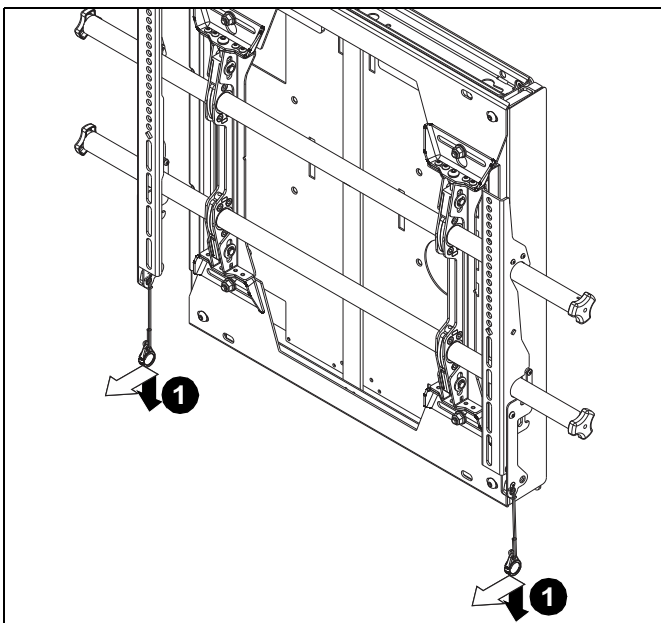

Figure 11
1. Remove interface brackets from rails by pulling down on pull cords and pulling away from rails. (See Figure 11)